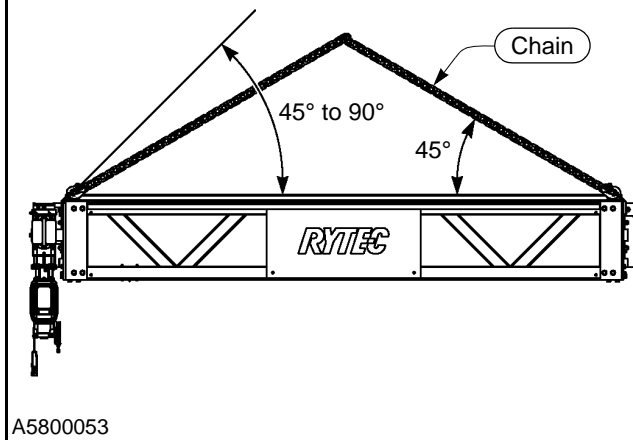

Figure 16
- a. Attach an appropriate rated strap or chain to the lifting lugs of the head assembly. (See Figure 16.)